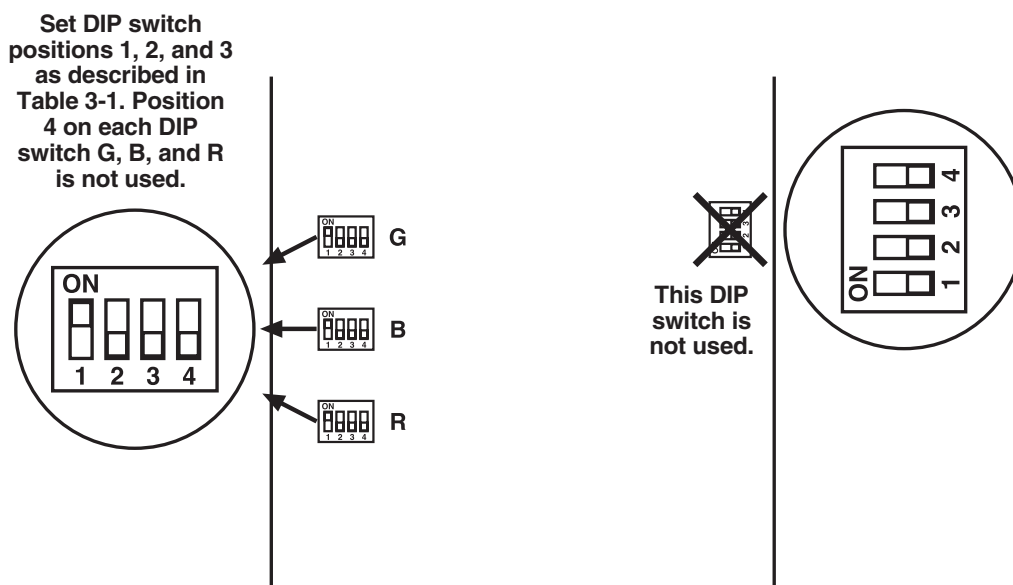

Figure 3-1. AC503A(E) DIP-Switch Settings for Coarse Adjustment.
1. The bottom of the remote unit contains DIP switches G, B, and R. See Figure 3-1.